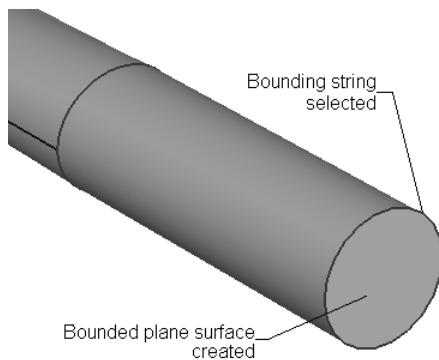
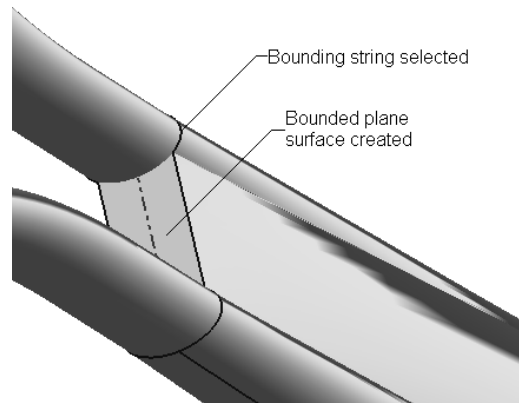

Figure 11-118 The bounding string selected and the resulting bounded plane surface created
Figure 11-119 The bounding string selected and the resulting bounded plane surface created
2. Select the bounding string for creating the bounded plane surface, as shown in Figure 11-118. The resulting bounded plane surface is displayed, as shown in Figure 11-119.
3. Again, select the sketch shown in Figure 11-119 to create the bounding surface. The resulting bounded plane surface is displayed, as shown in Figure 11-119.